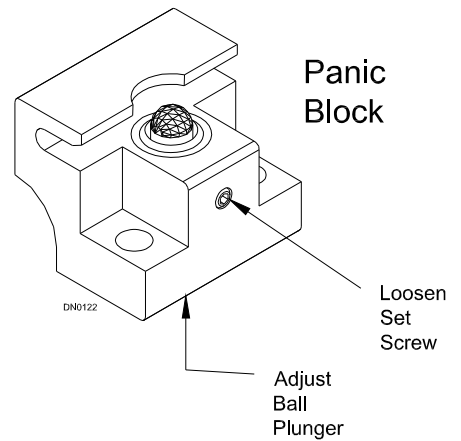

Figure 42
2. Remove panic block in top of door (See Figure 42).